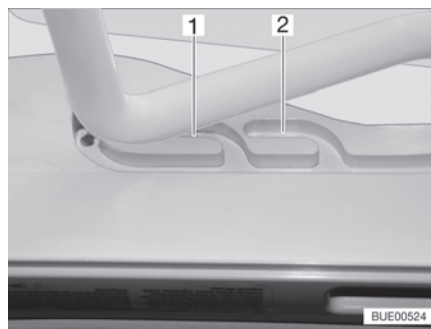
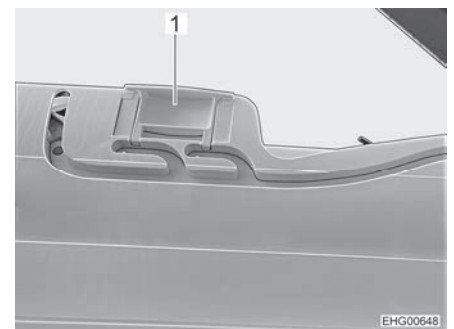

Fig. 32 Guide (ventilation position)
Fig. 33 Lock (ventilation position)
The Heki skylight can be put in two ventilation positions: Bad weather position (Fig. 32,1) and central position (Fig. 32,2). Depending on the model, the skylight can be locked in the central position with both left and right latches (Fig. 33,1) on the skylight frame.
- Push the bar slightly upwards and into the selected guide (Fig. 32,1 or 2) and lock if necessary.